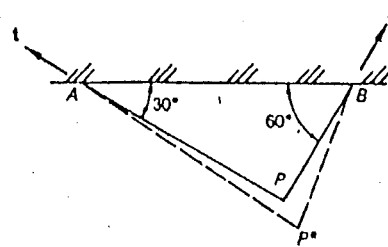

Fig. P2.34
2.34. A thin plate is in the form of a 30° - 60° - 90° triangle and is supported along its hypotenuse as shown in Fig. P2.34. It is subjected to the uniform strains $\epsilon_x = .004$, $\epsilon_y = .003$. Compute the approximate value of $\gamma_{xx}(P)$.